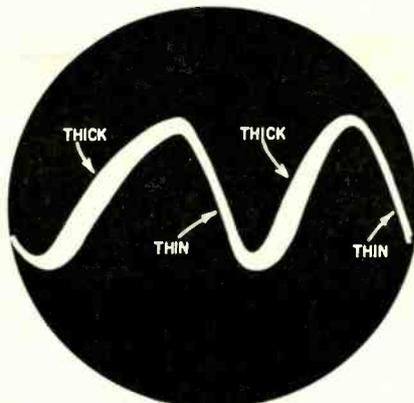

Fig. 3
*I've built a new kit scope. It works very well, but the trace looks peculiar. Parts are thick and parts are thin (Fig. 3). Linearity is good, and the scope seems OK otherwise.—A. N., Manila, Philippines.*